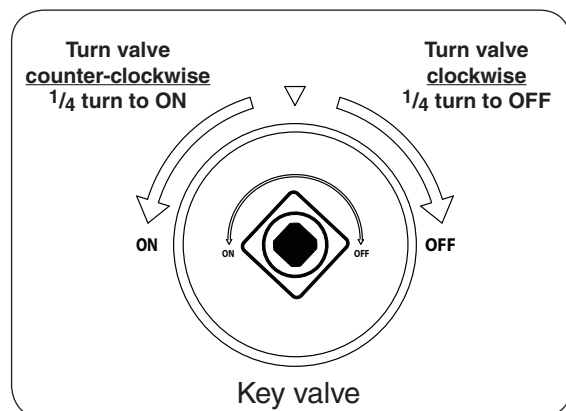

Fig. 39-2
4. **Once the match is burning and in position**, turn the key valve counter-clockwise a $\frac{1}{4}$ turn to the **ON** position (see Fig. 39-2). Your burner should light.
To extinguish your gas burner, turn the key valve clockwise a $\frac{1}{4}$ turn to the **OFF** position (see Fig. 39-2). Be sure the key valve is turned fully off to avoid any gas leakage.